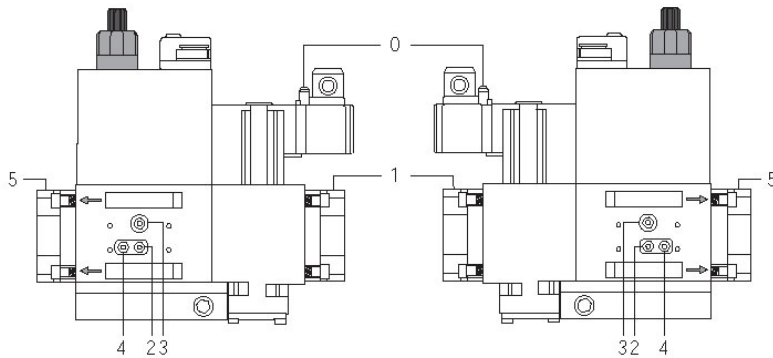
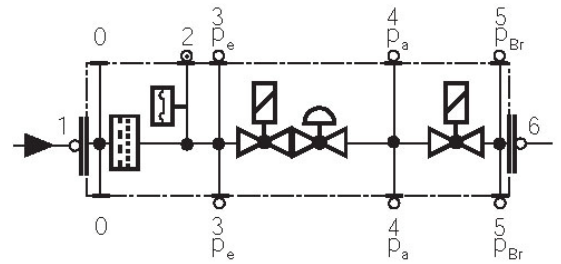

Fig. 34
Fig. 35
- Change the filter if the pressure difference between pressure connection 1 and 2 (Fig. 34-Fig. 35) $\Delta p > 10$ mbar.
- Change the filter if the pressure difference between pressure connection 1 and 2 (Fig. 34-Fig. 35) is twice as high compared to the last check.